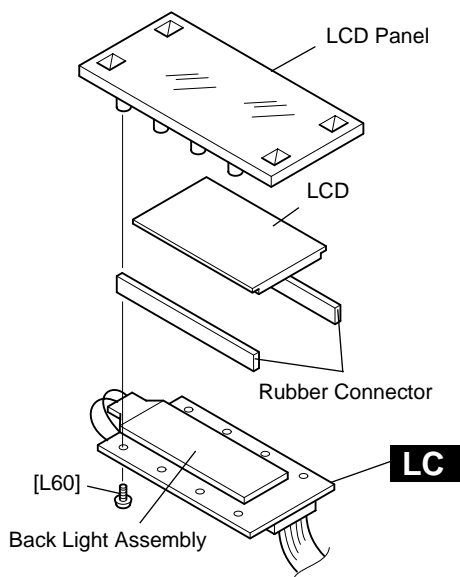

Fig.5
- 6-4 Remove the two (2) rubber connectors from the LCD panel. (Fig.5)
- 6-5 Lift the left end of the LCD first, and then remove it. (Fig.5)